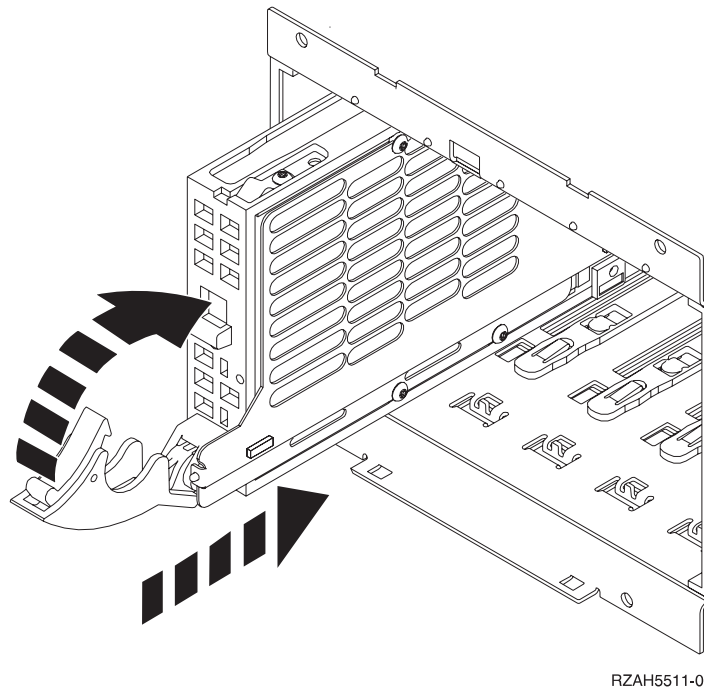

Figure 36. Installing a disk unit
- ___ 15. Refer to Figure 36 on page 45 and support the bottom of the disk unit assembly as you slide it half way into the next available position. Do not push it any further.
- ___ 17. Refer to Figure 36 on page 45 and when the light starts blinking, slide the disk unit in and lock it in place by closing the latch.